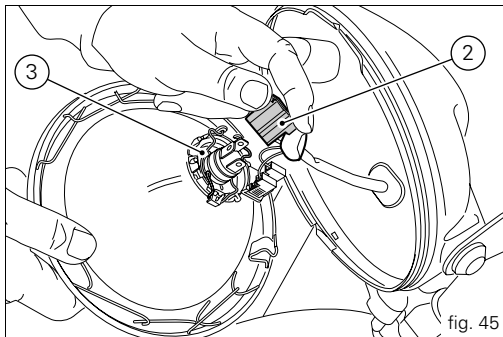

fig. 45
To access the headlight bulbs, loosen the lower screw (1) that attaches the lens/reflector assembly to the shell. Disconnect the wiring connector (2, fig. 45) from the headlight bulb. Release the bulb retaining clip (3, fig. 45) and remove the bulb from its housing.
Do not touch the transparent part of the bulb with your fingers as this will darken it and cause a loss of brightness. Insert the tabs on the bulb base into the corresponding slots in the bulb housing to ensure the bulb is correctly positioned; hook the end of the clip (3, fig. 45) on to the headlight mountings. Reconnect the wiring.